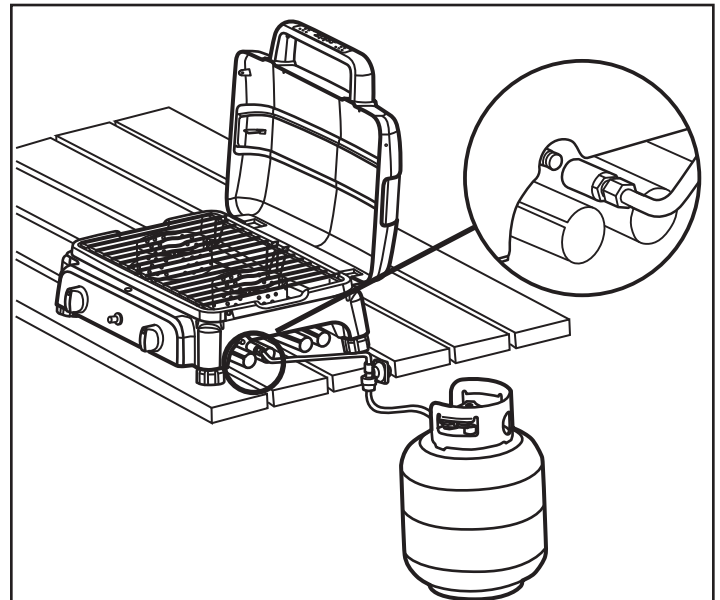

figure 10
6. With the propane QCC®-1 adaptor hose assembled on the regulator, the QCC®-1 adaptor hose connected to the propane cylinder and the quick connect coupler pulled back. Push the quick-connect coupler onto the valve assembly, until it clicks as shown in figure 10.